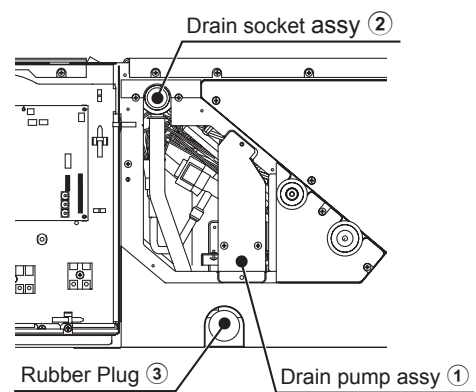

Fig. 3-6
- (3) Attach the drain pump assy ① and drain socket assy ② as shown in Fig. 3-6 using four PTT screws ⑤.
- (4) Attach the Rubber Plug ③.